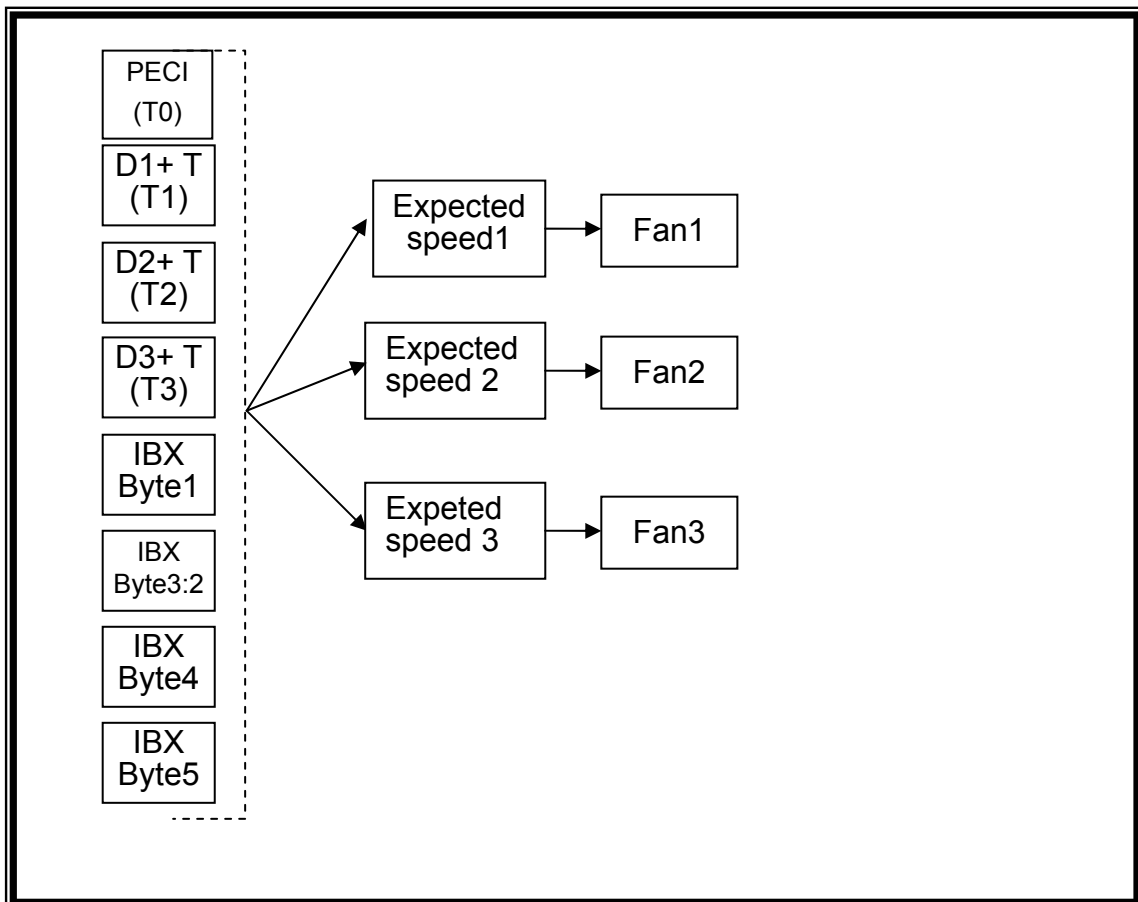

Figure 7 Relative temperature fan control
Each fan can be controlled by up to 8 kinds of temperature inputs: (1) D1+ temperature (2) D2+ temperature (3) D3+ temperature (4) PECI temperature (5) 4 suits SMBus master temperature. Each fan would make the maximum temperature comparison form those inputs with the expected speed, and decide the suitable fan speed. Please refer below figure 7.